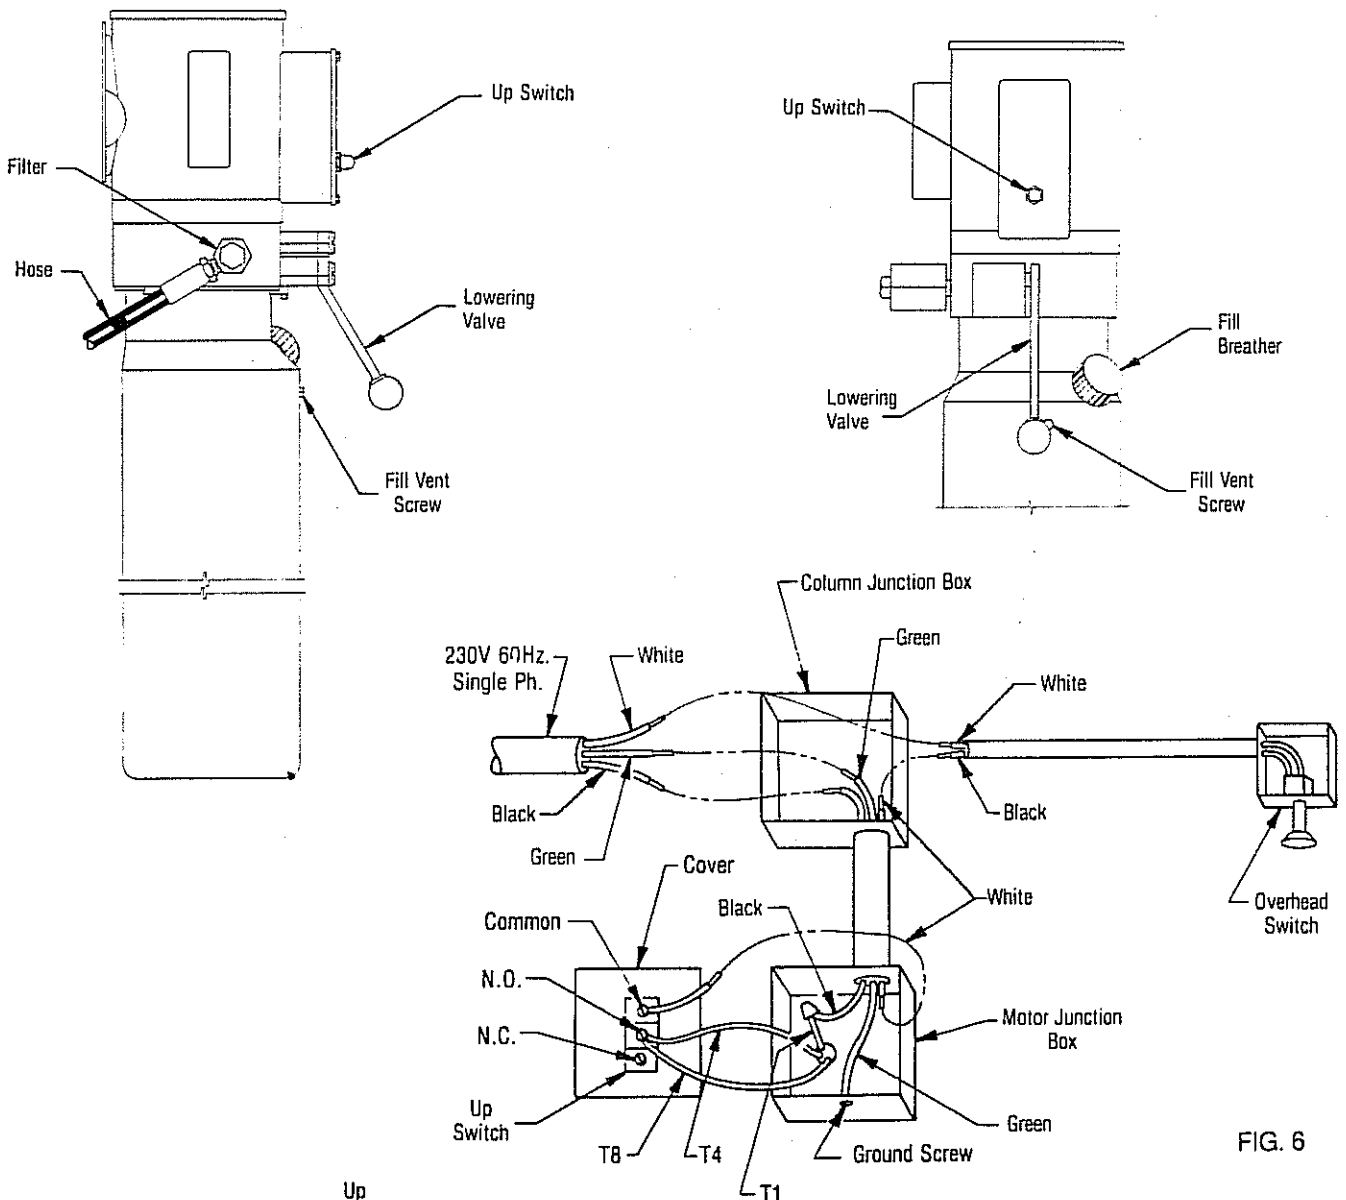

FIG. 6
14. POWER UNIT: Mount unit to bracket using (4) $\frac{5}{16}$ " x $\frac{3}{4}$ " lg. bolts, lock washers and nuts with motor up. Connect supply hose to pump filter block, Fig. 6.
16. ELECTRICAL: Run 230 volt single phase power supply to 2 HP motor, connecting overhead switch assembly through the junction box, Fig. 6. Size wire for 30 amp. circuit. Power unit will run on 208 volts (maintained). Service factor of 10% not applicable when 208 volts is used.
- OIL FILLING & BLEEDING: SPO84 system capacity is (13) quarts and SPO94 capacity is (14) quarts. Use Dexron II ATF. Remove fill-breather and fill vent screw. Reference Fig. 6. SPO84, pour in (8) quarts of fluid and SPO94, pour in (9) quarts of fluid. Start unit, raise lift about 2 feet and reset latches. Open cylinder bleeders approximately 2 turns, Fig. 8. Close when oil streams. Fully lower lift. Add more fluid until it comes out fill vent hole, Fig. 6. Replace fill vent screw.
5. If lift stops short of full rise or chatters, check fluid level and bleed both cylinders per instructions. Clean power unit filter, Fig. 6.